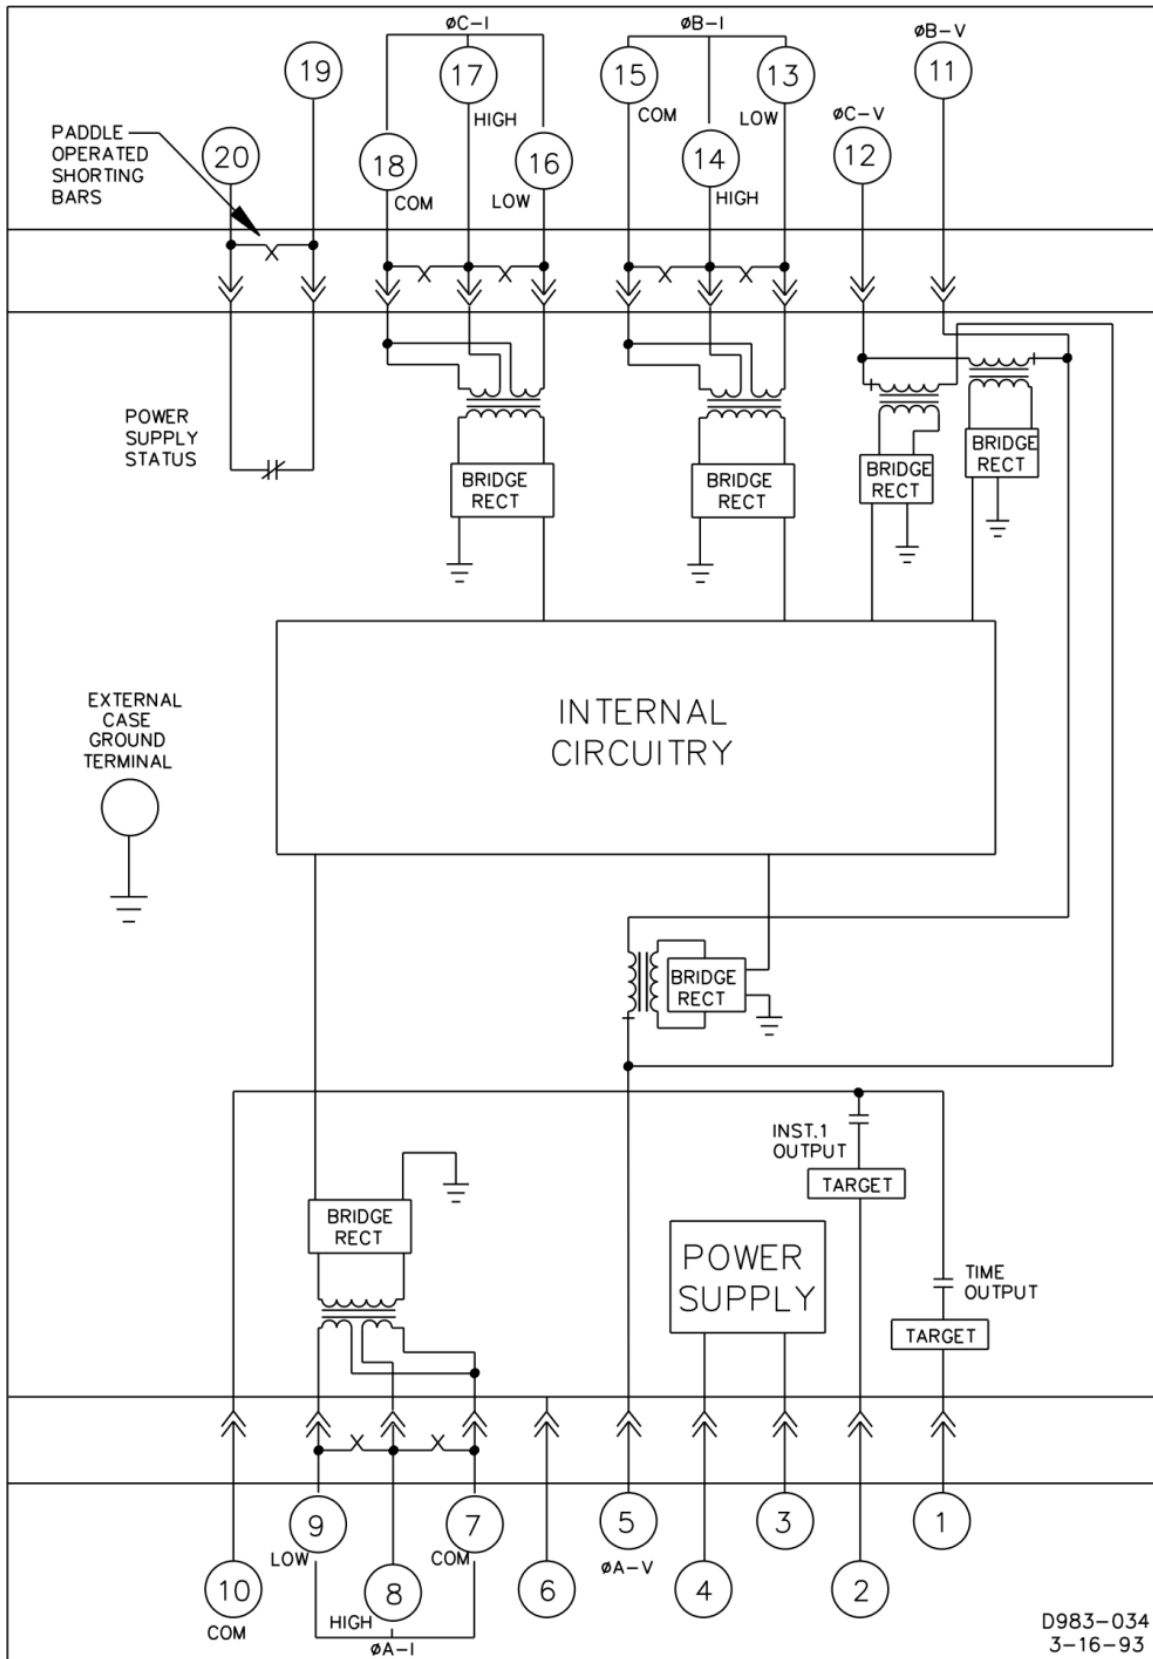

Figure 4-22. Typical Internal Diagram, Sensing Input Type A
- Figure 4-22: Typical Internal Diagram, Sensing Input Type A